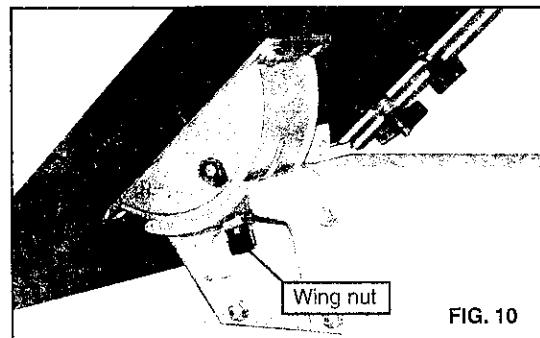

FIG. 10
- To tilt the table, loosen the wing nut on the table trunnion, set the table to the required angle and tighten the wing nut again (See Fig. 10).